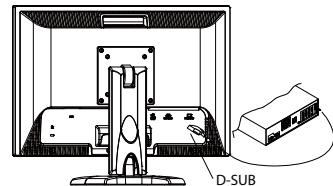

Figure1-4
2. Connect one end of the signal cable to the LCD Monitor's VGA port . (See Fig 1-4)